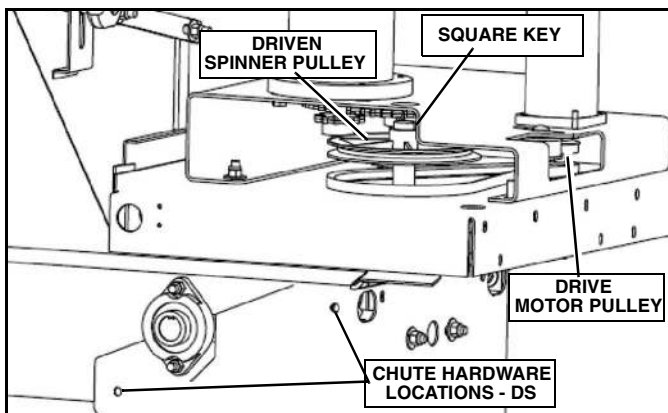

Figure 1-3
3. Secure the chute using four 3/8" x 7/8" bolts, flat washers and nylock nuts. (See Figure 1-3).